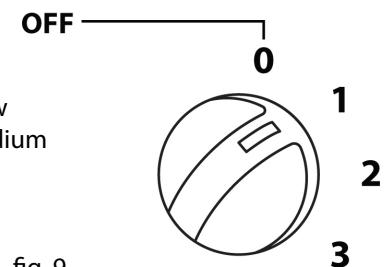

fig. 9
- Use the control knob (11) to start the fan. The fan has 3 speeds and OFF (see fig. 9)
- The Oscillation Clutch Control (8) button allows the unit to oscillate the fan head to cover a greater area. Lift to disengage, push down to engage